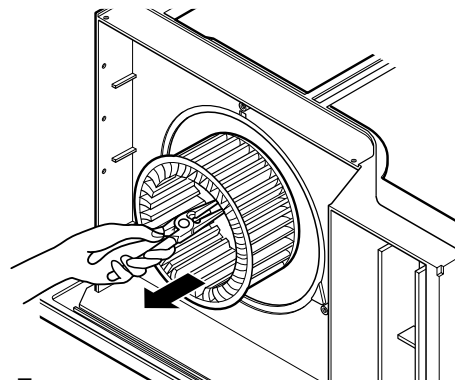

Figure 7
9. Remove the blower with plier or your hand without touching blades. (See Fig. 7)